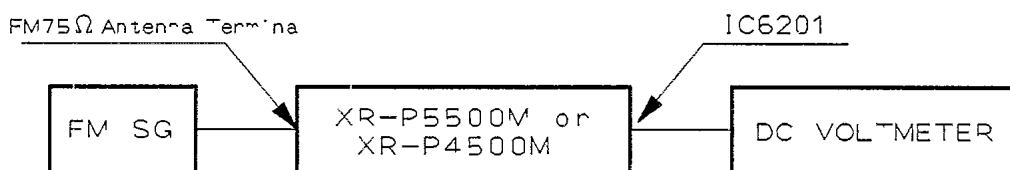

Fig. 1-1 FM Adjustment Connection Diagram
- Connect the wiring as shown in Fig. 1-1.